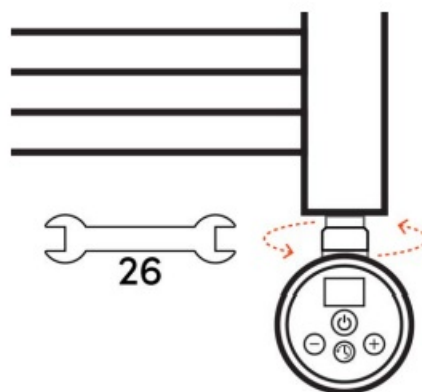

Figure 4 | Tighten element at main nut
5. Tighten the element at the main nut, using a size 26 spanner (Figure 4).